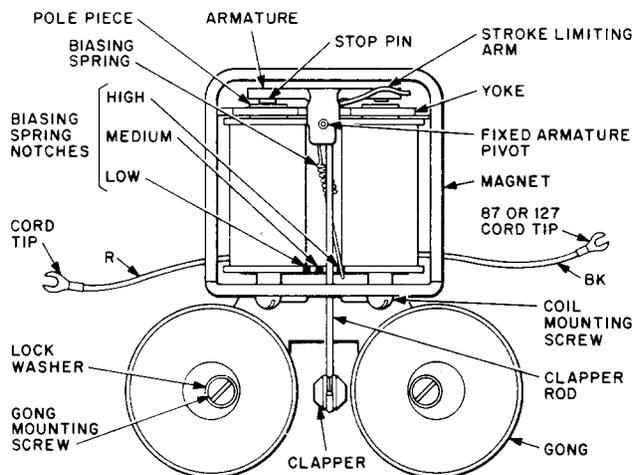
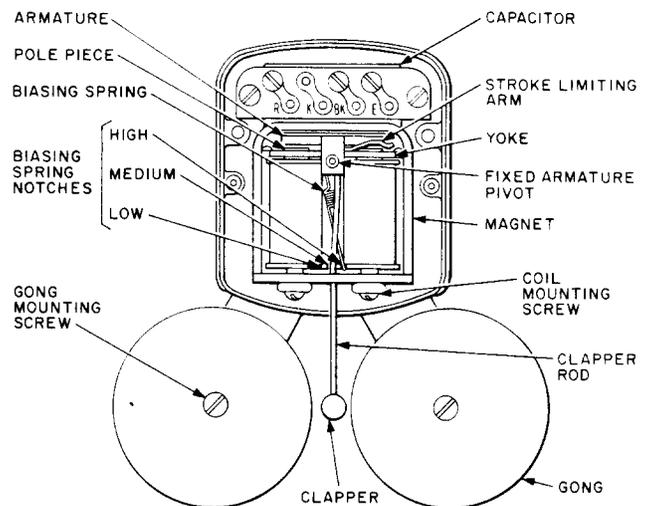

Fig. 1—B1AL Ringer
Fig. 2—592-Type (MD) Subscriber Set
2.01 Fig. 1 shows a typical B-type (B1AL) ringer and its component parts. Fig. 2 illustrates a typical 592-type (MD) subscriber set (loud ringing bell).
2.11 B-type ringers, sent to the field in instruments or shipped separately, have the bias spring located in the high notch as shown in Fig. 1. Two exceptions, the B3A and B3C (MD) have the bias spring in the low notch.